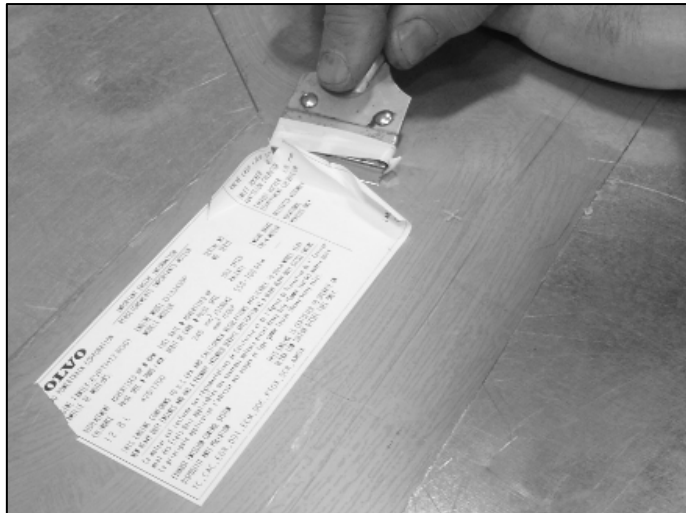

FIG 4
- Gently remove the engine information decal located on the vertical metal panel. Use a window scraper with a new blade to avoid making marks on the surface (Fig.4).